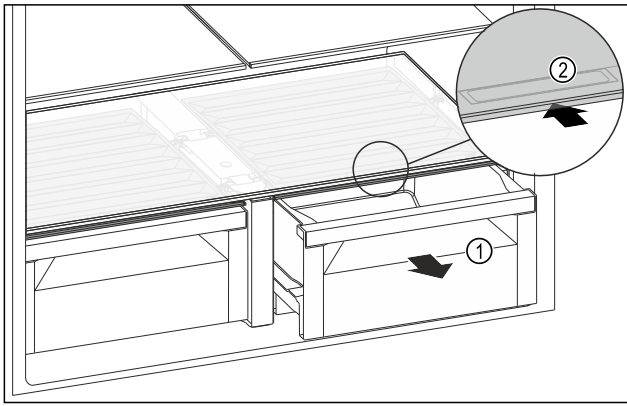

Fig. 99
- ▶ Pull out the drawer Fig. 99 (1).
- ▶ Grasp the recessed grip Fig. 99 (2) on the compartment lid and push the compartment lid backwards at the same time.